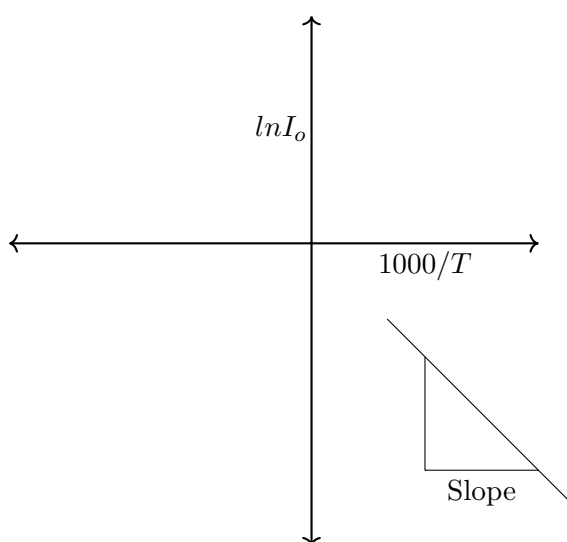

Figure 9.2: Model graph.
9. Draw a graph between (shown in the below figure 9.2 )  $\ln I_0$  Vs  $1000/T$ .